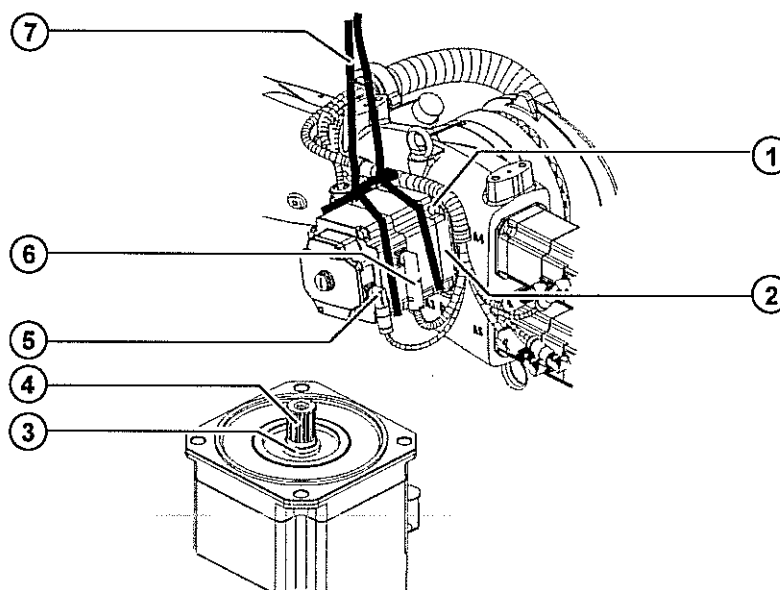

Fig. 12-8: Installing motor A3
2. Clean the toothings of motor A3 and gear unit before installation and apply a thin but continuous coat of Microlube GL 261 grease (>>> Fig. 12-8).